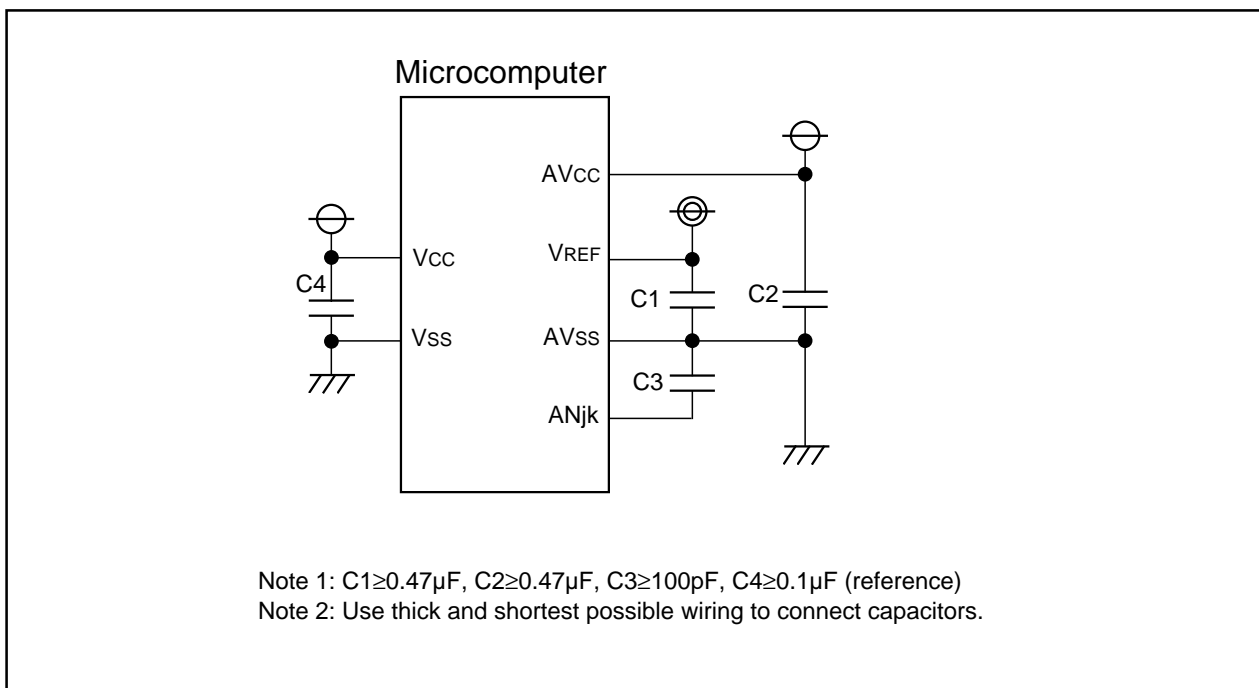

Figure 27.2 Use of Capacitors to Reduce Noise
- Insert capacitors between pins AVCC, VREF, analog input pin ANjk (j=none, 0, 2, 15; k=0 to 7) and AVSS to prevent latch-ups and malfunctions due to noise and to minimize conversion errors. The same applies to pins VCC and VSS. Figure 27.2 shows the procedure.